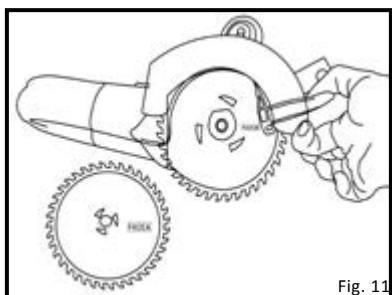

Fig. 11
3. Place "Face 1" blade on top of "Face 2" blade and fit on inner arbor shaft. (Fig. 11)